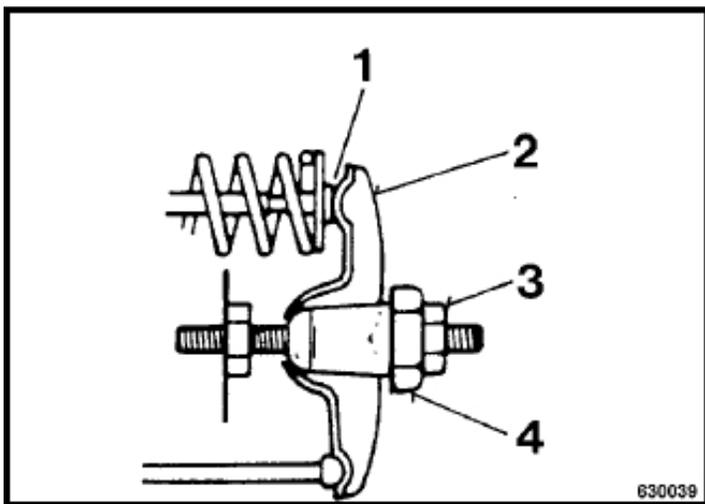

Fig. 49
- | Check the valve clearance 1 (Fig. 49) with a feeler gauge. For adjusting hold the hexagon nut (4) on the rocker arm and loosen the counter nut (3).
- | Adjust the hexagon nut (4) on the rocker arm so that the feeler gauge fits through the gap between rocker arm and valve with only little resistance after retightening the counter nut (3).
- | Unscrew the fuel sludge filter (2), drain and catch all fuel.
- | Clean the fuel sludge filter (2) with petrol.
- | Reinstall the fuel sludge filter with a new seal ring (3) tightly.
- 1 Insert a new gasket 4 (Fig. 49), push the ventilation hose (2) into the socket (5) and fasten the valve cover evenly.